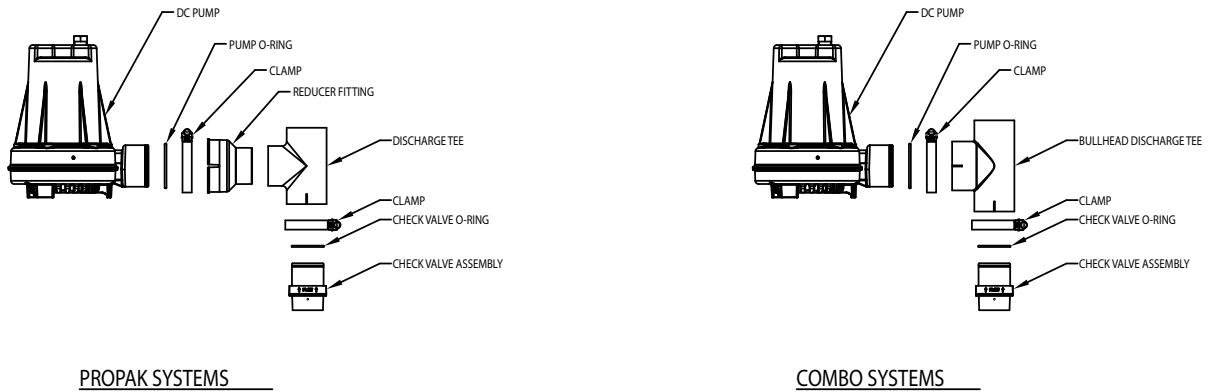

FIGURE 4
- Check 15 amp fuse in line from pump to switch (see fig. 4). If fuse is blown, replace with 15 amp Littelfuse type 3AG, series 311.
6. Solvent weld DC discharge reducer fitting to tee as shown in Figure 4. Then ensure o-ring is properly located on pump discharge. Slide DC pump into the fitting and tighten the hose clamp. Position the clamp's gear drive so that it will not interfere with the operation of the switch.
8. Determine the position of the DC pump and connect the pipe tee to the in-line check valve and tighten hose clamp. See Figure 4.